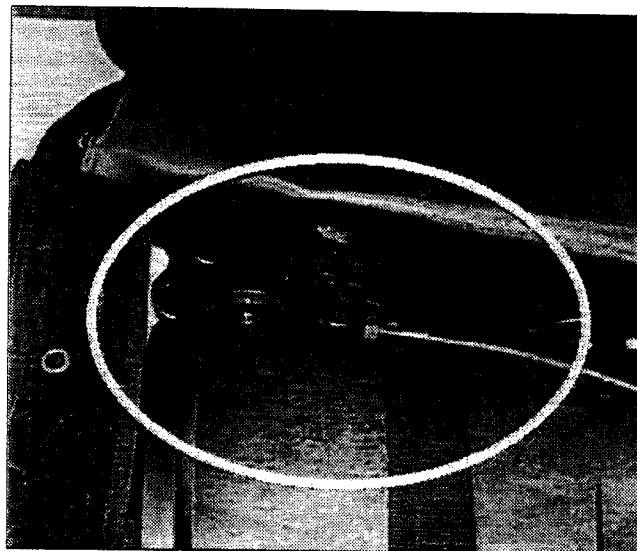

Figure 7: Plugging the sensor housing into place
- If the OXYgauge is correctly calibrated, continue assembling the rebreather by plugging the sensor housing into the port (see Figure 7).